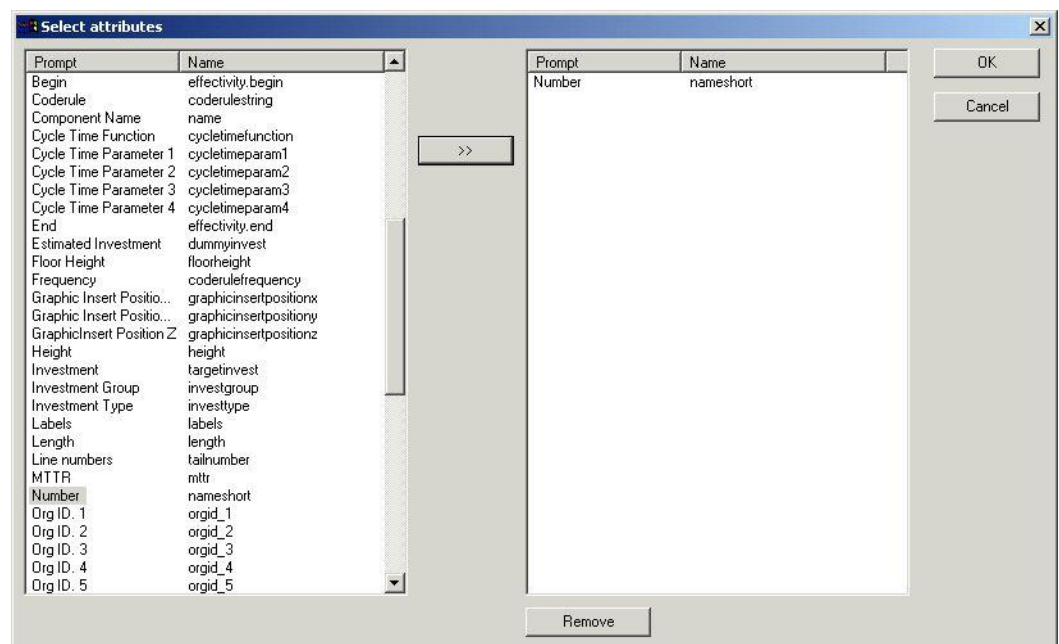

Figure 261: Selecting Attributes Dialog
- **Using the Project Filter for Children:** Whenever you use attributes for either BOM entries or components of the respective plantype are shown in the **Select Attributes** dialog. *Please refer to the Figure 261.*